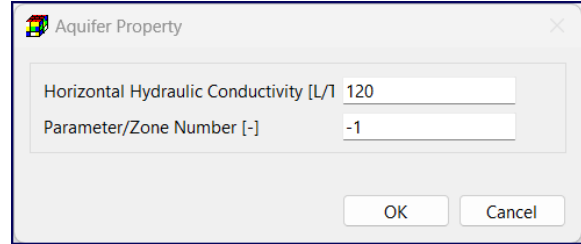

Figure 16. The Aquifer Property dialog box
- In that dialog box, enter new value(s) and then click OK. For example, if you are editing HK values, you can enter an HK value and a Parameter/Zone Number with the Aquifer Property dialog box (Figure 16). The Parameter/Zone Number is used in conjunction with PEST and/or Kriging. The following rules apply.